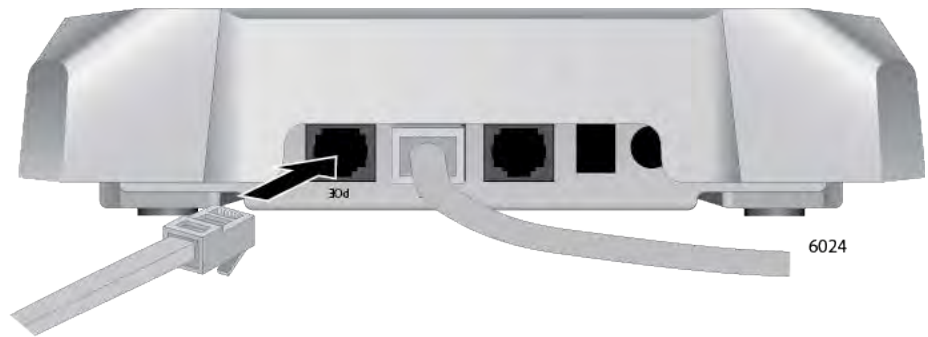

Figure 23. Connecting the Ethernet Cable to the LAN2 Port
3. To use LAN2 port in the static LAG or Cascade mode, connect a second Ethernet cable to the port. See Figure 23.